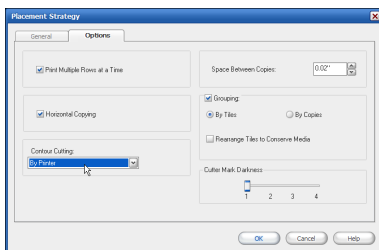

Figure 5—By Printer Option
3. On the **Options** tab select **By Printer** in the **Contour Cutting** drop-down menu (see Figure 5).